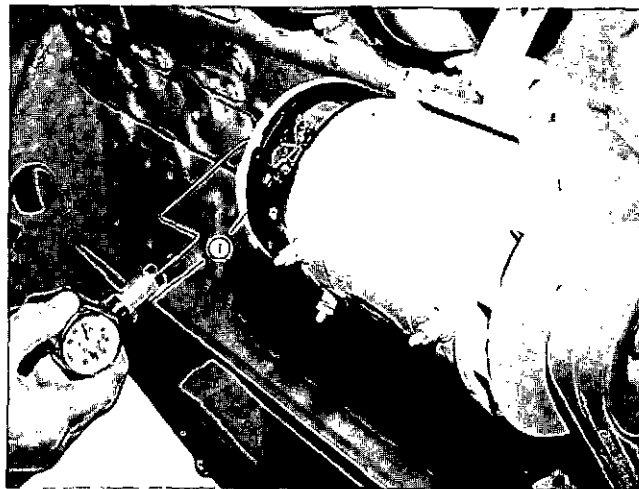

Fig. 5-40, V41926. Checking generator brush spring tension
2. Replace worn brushes. If brushes wear rapidly, check brush spring tension (1, Fig. 5-40) or high mica on the commutator. Check generator manufacturer's specifications for spring tension data. Check out-put and action of an ammeter indicator after brush replacement.